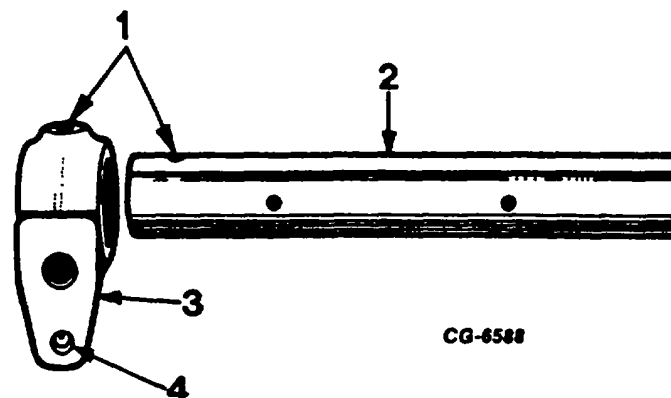

Figure 59. Aligning Holes in Rocker Arm Shaft and Support
8. To assemble, align oil hole in oil feed support with cross hole in end of rocker arm shaft (Figure 59). Then press oil feed support on shaft, indexing oil holes.